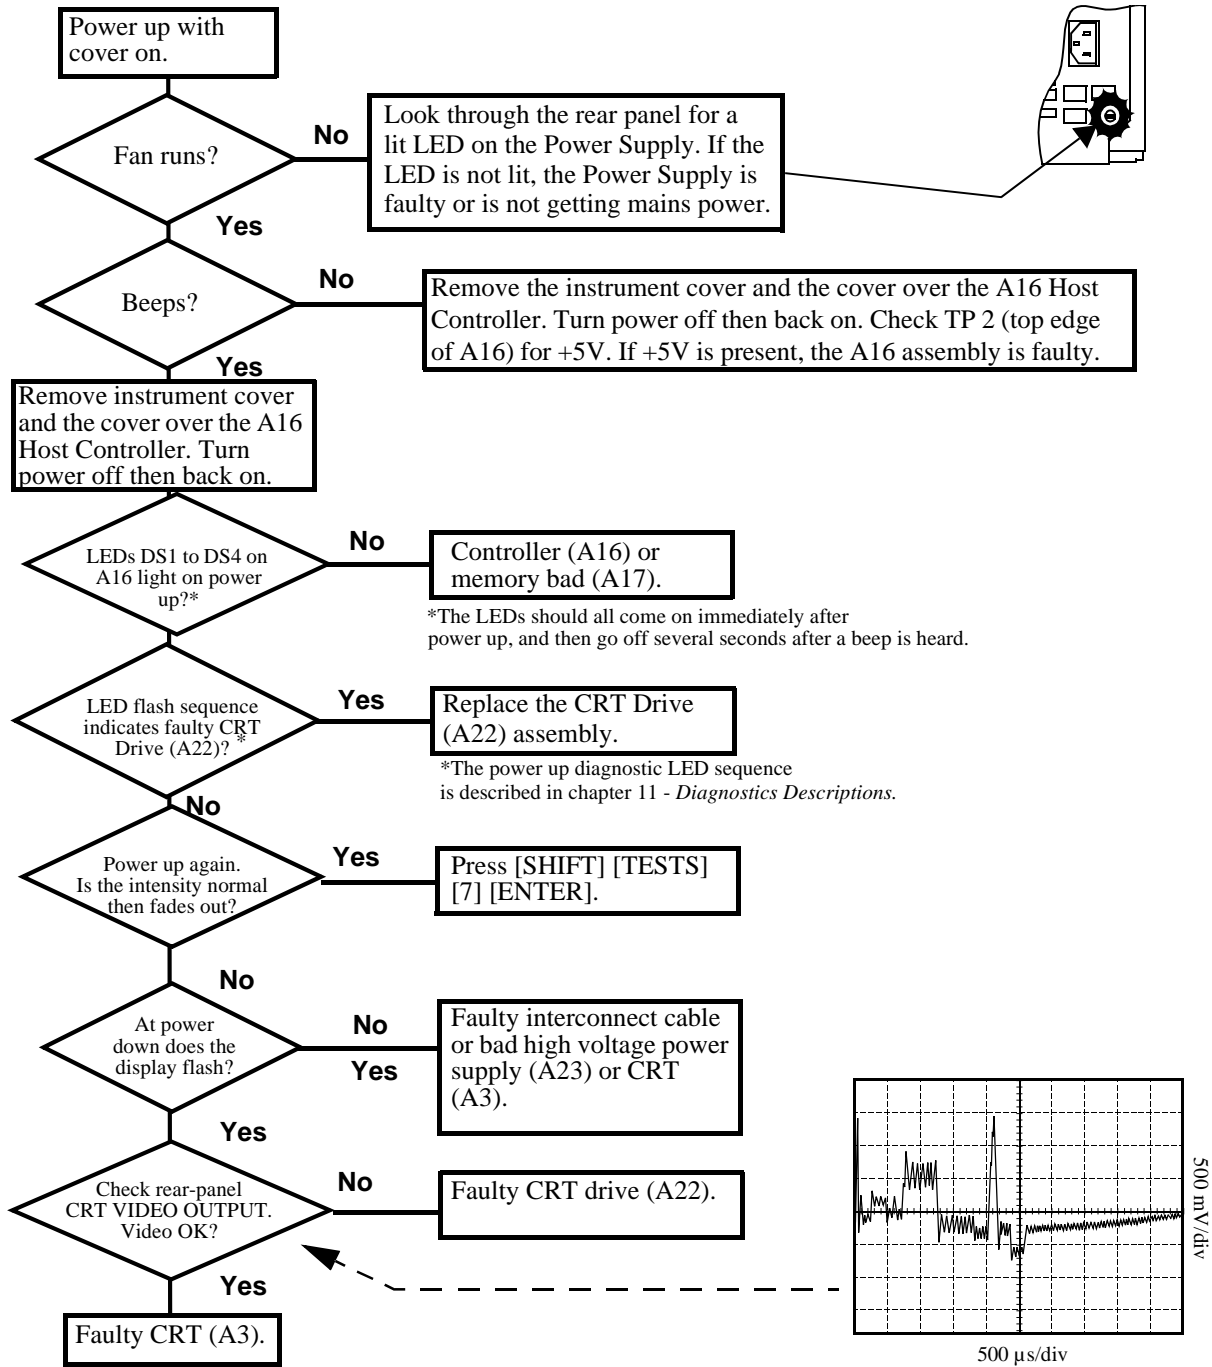

Figure 8 Troubleshooting a Blank Display
- If there is no image on the display, see figure 8, "Troubleshooting a Blank Display," on page 80.